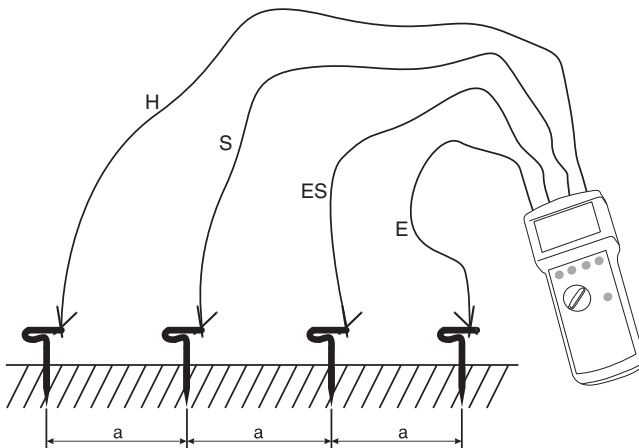

Figure 7: Specific Earth resistance measurement
- 1) Place the four earth rods for E, ES, S, H in one line, in accordance with Figure 7. The distance between each probes must match the value used in the formula. Carefully place the test leads making sure that the test leads are not parallel to each other and do not cross to avoid coupling.
- 2) Connect test leads to earth rods according to figure 7.
- 3) Select "4 pole" measurement by using selection switch (13).
- 4) Set contact voltage by using key "UL" (11).
- 5) If required choose manual frequency selection by using key "auto/man" (16), and select test frequency with key "f1/f2" (12).
- After the measurement, selection can be made between display of earth resistance (RE), auxiliary resistance (RS) and measurement current (IM) by using key "Display" (8), depending on the measurement result.